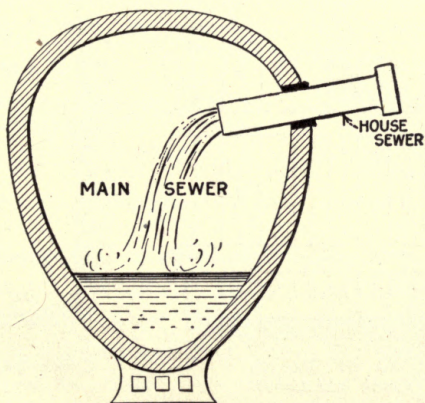

FIG. 35.—Connection of house sewer to main sewer.
down to the depth of the sewer. A branch should be chosen so that the pipe can be laid with a pitch, the same way as the main sewer pitches. This can be done by getting the measurements of two of these branches and choosing the one that will serve best. When there is a brick sewer in the street and no branches left out, the sewer must be tapped wherever the house sewer requires it (see Fig. 35).
**Connecting.**—The proper method of connecting the house sewer with the street sewer is shown in Fig. 35. The connection should be made above the spring of the arch. The pipe should extend well into the sewer so the sewage will discharge into water and not drop on sides.